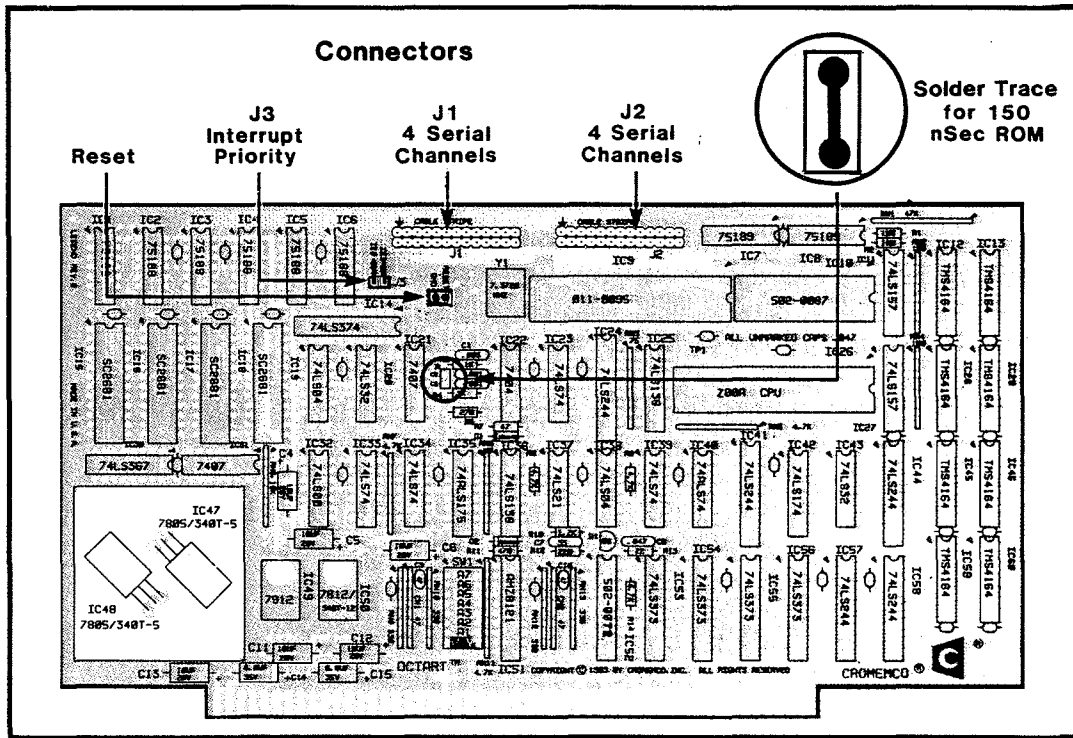

Figure 1-1: OCTART CONNECTORS AND SOLDER TRACE
2. Cut a solder trace if you insert a different ROM with an access time of 150 nSec or less (see Figure 1-1).
The Octart board supports the 16K x 8-bit 27128 ROM, or any pin-compatible equivalent. (If you insert a different ROM with an access speed of 150 nSec or less, cut the solder trace shown in Figure 1-1; otherwise, leave the solder trace intact.)
There are four connectors on the Octart board (see Figure 1-1): J1 connects to serial channels 0 through 3, and J2 connects to serial channels 4 through 7. J3 connects the Octart in the S-100 interrupt-priority chain, and the RESET connector resets the Octart board.